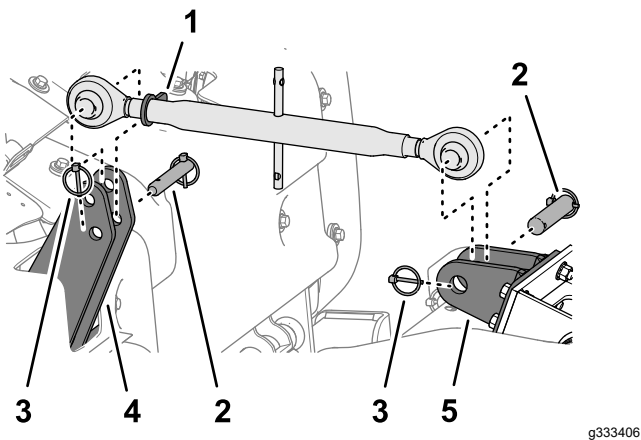

Figure 48
2. Loosen the locking nut (Figure 48) and rotate the upper adjusting link to release the tension between the machine and the traction unit.
3. Remove the lynch pin and the link pin that secures the upper adjusting link to the upper hitch plates of the machine (Figure 48).
4. Remove the lynch pin and the link pin that secures the upper adjusting link to the link bracket of the traction unit (Figure 48).